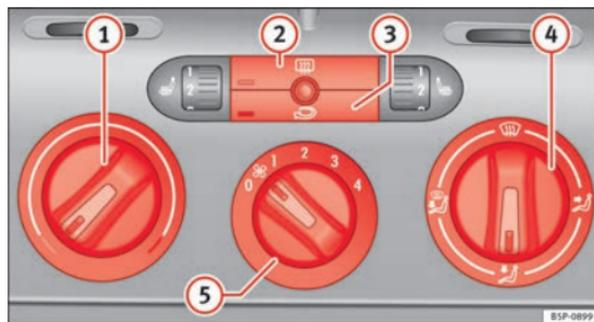

Fig. 125 Heating controls on the dash panel.
- Use the knobs ⇒ Fig. 125 ① and ④ and control ⑤ to set the temperature, air distribution and blower speed.
- To switch a function on or off, press the appropriate button ② or ③. When the function is activated, the display window in the lower left of the button is lit.